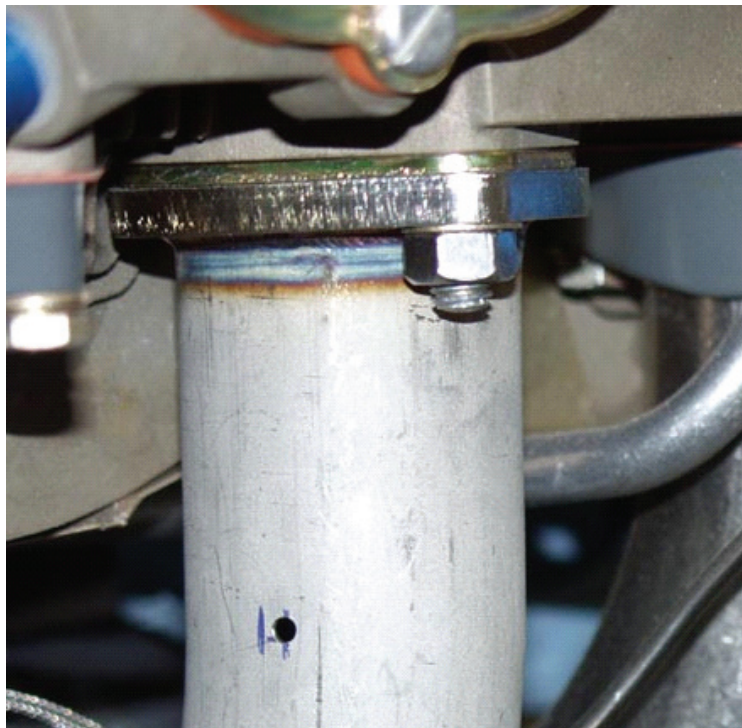

Figure 8-6 Exhaust Pipe Drilled
2. Carefully center punch the probe hole locations so that the external portion of the probe does not interfere with any other parts of the engine or cowling (Figure 8-6). It may be desirable to angle the probes towards the rear of the engine to allow efficient wire routing back to the cockpit. If angling the probes towards the rear of the engine, take care to ensure that sufficient clearance is provided to service the spark plugs.